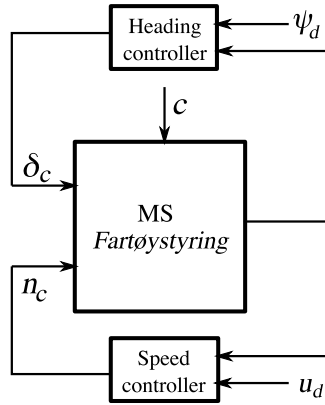

Figure 3: Controller structure for Section 1.
**Task 1.3.** Design a control law that ensures  $\lim_{t \rightarrow \infty} \tilde{\psi} = \lim_{t \rightarrow \infty} \tilde{r} = 0$  (see Figure 3). The controller must work in the presence of current.
**Task 1.7.** Design a control law that ensures  $\lim_{t \rightarrow \infty} \tilde{u} = 0$  (see Figure 3). The controller must work in the presence of current.